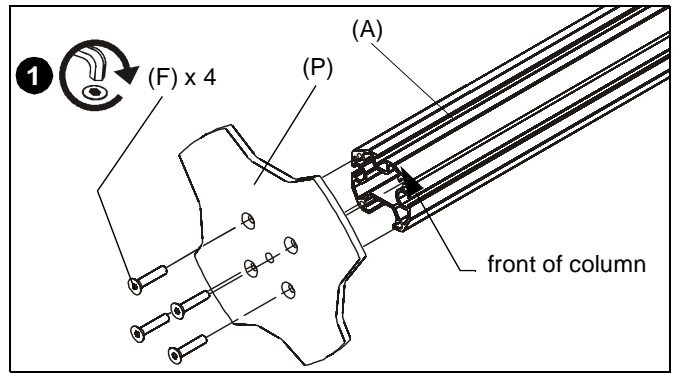

Figure 7
1. Use four 1/4-20 x 1 1/4" flat head cap screws (F) to secure grommet plate (P) to array assembly (A). Make sure longer legs of grommet plate are aligned with the front of column. (See Figure 7)